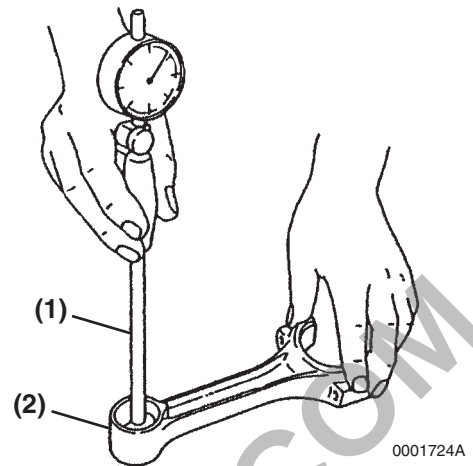

Figure 6-119
1. Measure the wrist pin bushing bore using a bore gauge (**Figure 6-119, (1)**). Replace the bushing if not within specifications. If the bushing has been removed, measure the inside diameter of the connecting rod small end (**Figure 6-119, (2)**). See *Connecting Rod* on page 6-22 for specifications.